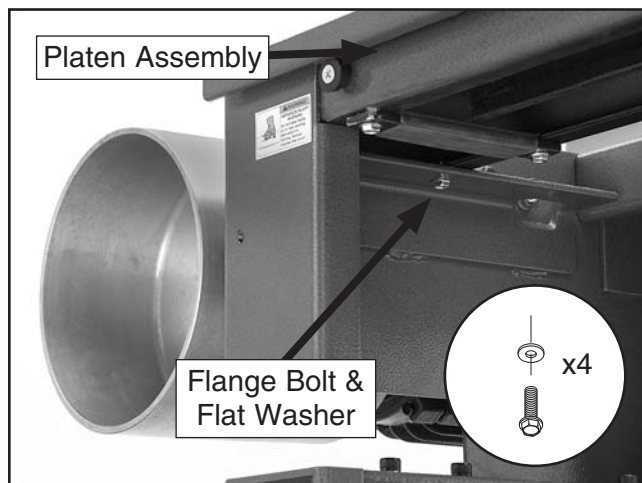

Figure 16. Platen assembly.
7. With the help of an assistant, place the platen assembly onto the assembled frame, then secure it with (4) $\frac{1}{4}$ "-20 x $\frac{1}{2}$ " flange bolts and (4) $\frac{1}{4}$ " flat washers, as shown in **Figure 16**. Do not yet fully tighten the flange bolts.